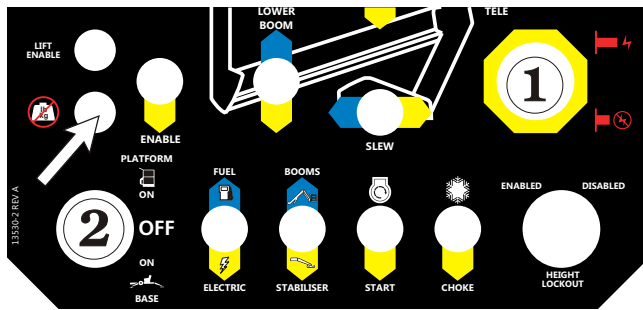

Figure 9.1 - Ground Control Box
1. The **Emergency Stop** switch ❶ must be ON (Out) (see Figure 9.1).
2. The **Platform/Ground Selector** switch ❷ (see Figure 9.1) must be set to PLATFORM.